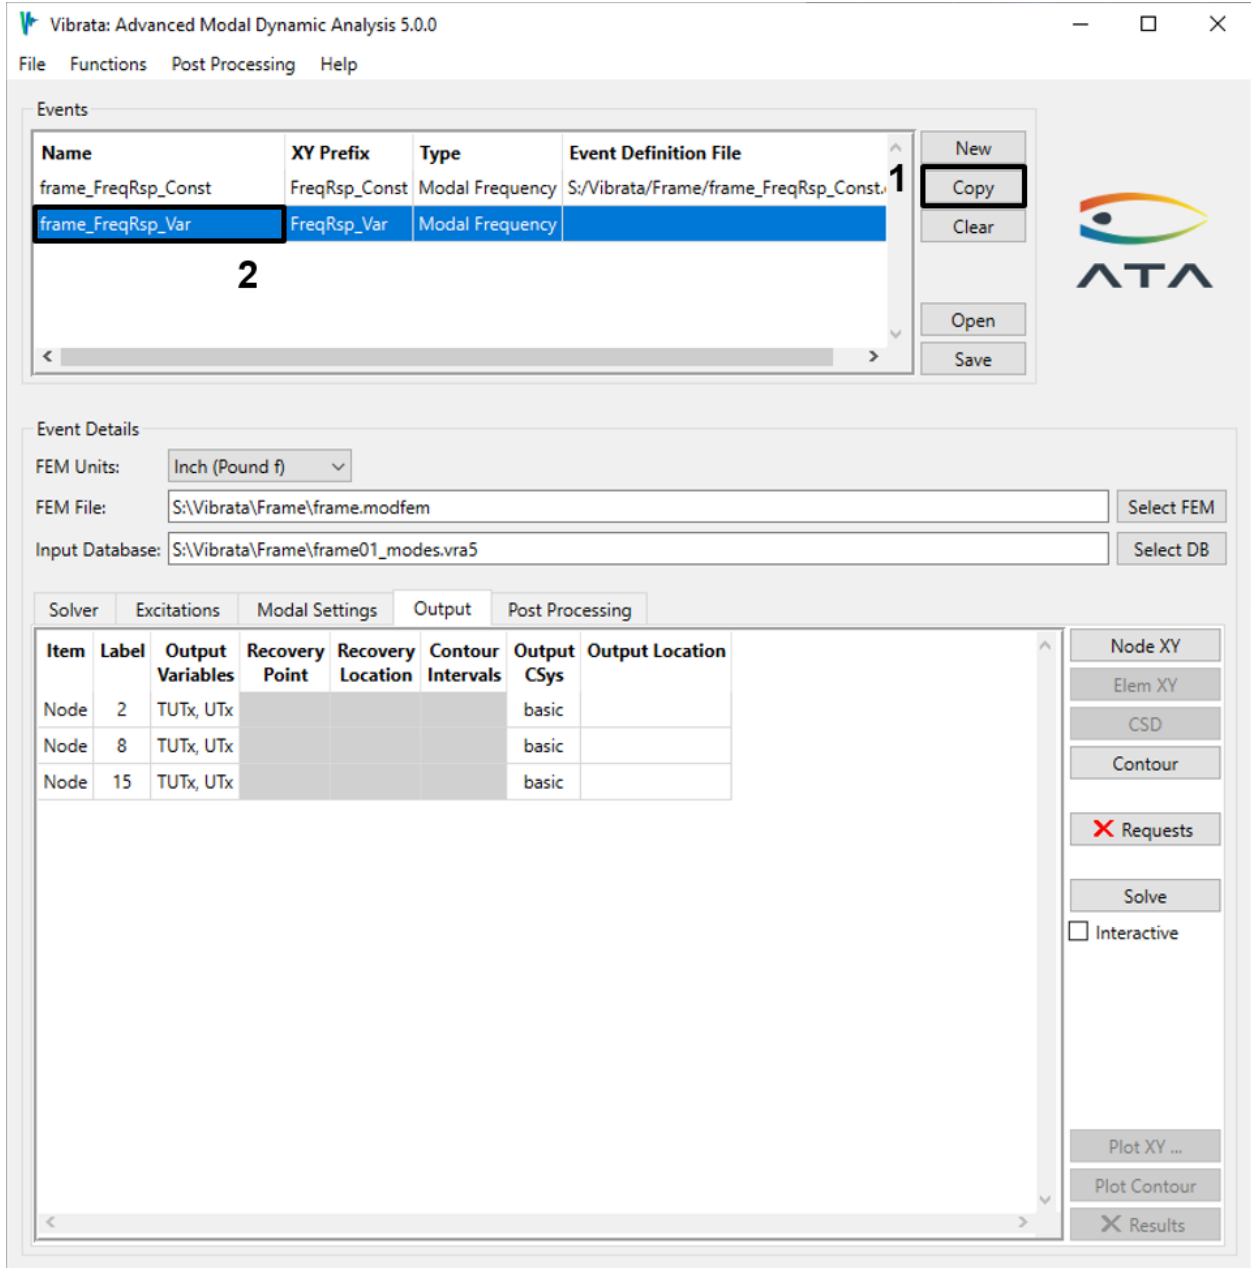

Figure 4-33. Use the **Copy** button to create a new event from an existing one.
- b. Rename the new event to "frame\_FreqRsp\_Var" and set the XY Prefix accordingly. Note that its output requests are again in black text; these have not yet been solved (Figure 4-33).